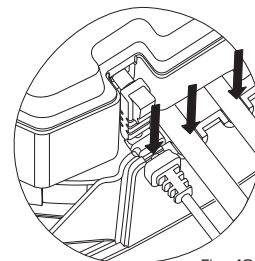

Fig. 48
2. **Push** cord strain relief into notch on Base. Make sure the tubes are in the notches on the back of the Base (Fig. 48).